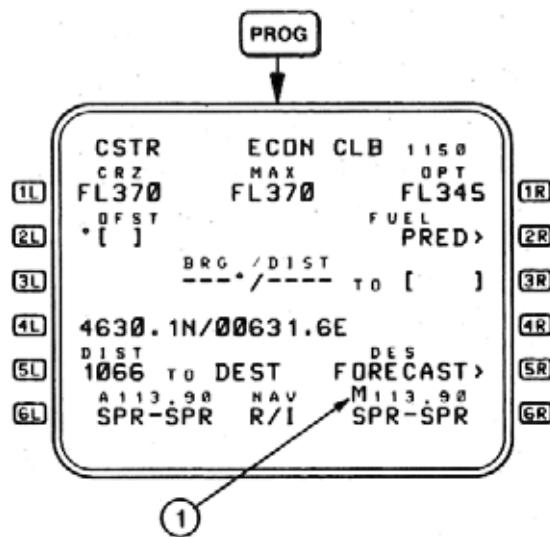

Figure 2-67
Additionally, the manually tuned navaid is indicated on the PROG page by the letter M, for MANUAL, adjacent to the frequency for SPR (1). (See Figure 2-67.)
Aircraft PPOS is displayed in this field as LAT/LONG **4R** (Figure 2-67). Pressing LSK **4L**, with the SP empty, freezes the LAT/LONG values at the then current position, and changes the display to include the label line, "POS FROZEN". (See Figure 2-69.)